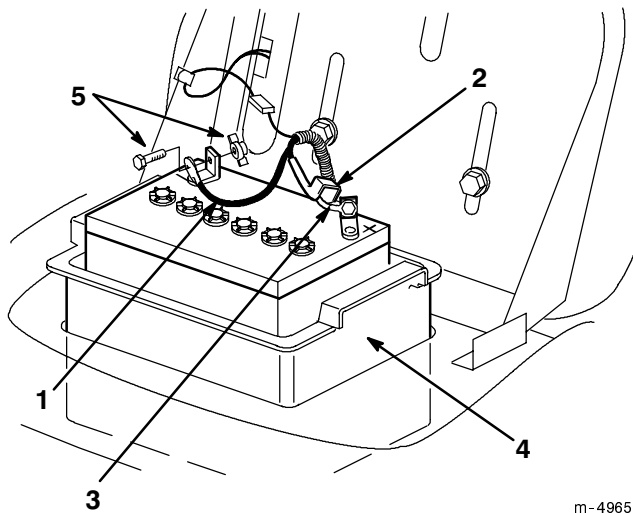

Figure 20
3. Disconnect the negative (black) ground cable from the battery post (Fig. 20).
4. Slide the rubber cover up the positive (red) cable. Disconnect the positive (red) cable from the battery post (Fig. 20).
5. Remove the battery box and battery from the chassis (Fig. 20).
1. Put the battery into the battery box and install into the chassis (Fig. 20).
2. Using the bolt and wing nut, connect the positive (red) cable to the positive (+) battery post (Fig. 20). Slide the rubber cover over the battery post.
3. Using the bolt and wing nut, connect the negative (black) cable to the negative (-) battery post (Fig. 20).